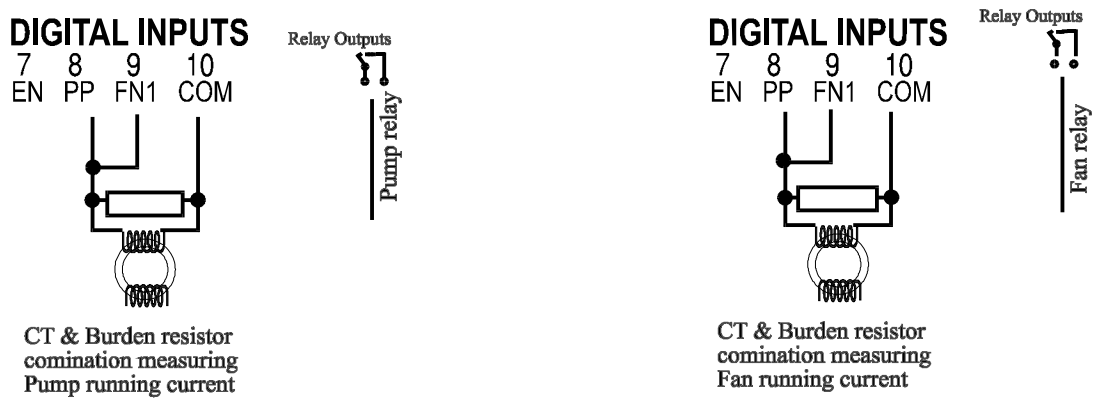

Figure 9.1.3B
9.1.3.3 Figure 9.1.3B (left) shows the 852 wiring arrangement for CT type input where the transformer is fitted with a Pump only. With this arrangement ensure that the FAN and Pump ON and OFF settings are identical.
9.1.3.4 Figure 9.1.3B (right) shows the 852 wiring arrangement for CT type input where the transformer is fitted with a Fan only. With this arrangement ensure that the FAN and Pump ON and OFF settings are identical.